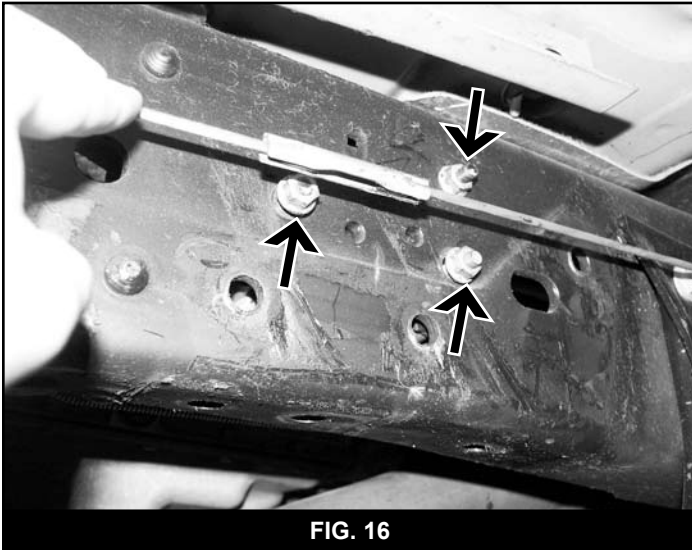

FIG. 16
38. Repeat the frame bracket and control arm procedure on the driver's side of the vehicle. **Notes:** *To help in accessing the bracket bolts, the fuel junction block mounted to the inside of the driver's side frame rail can be disconnected and repositioned out of the way. Use the nut that was removed from the radius arm-to-frame bolt for the upper control arm-to-axle mount bolt on the driver's side. The OE bolt in this position is welded to the radius arm.* (Fig. 16, 17)